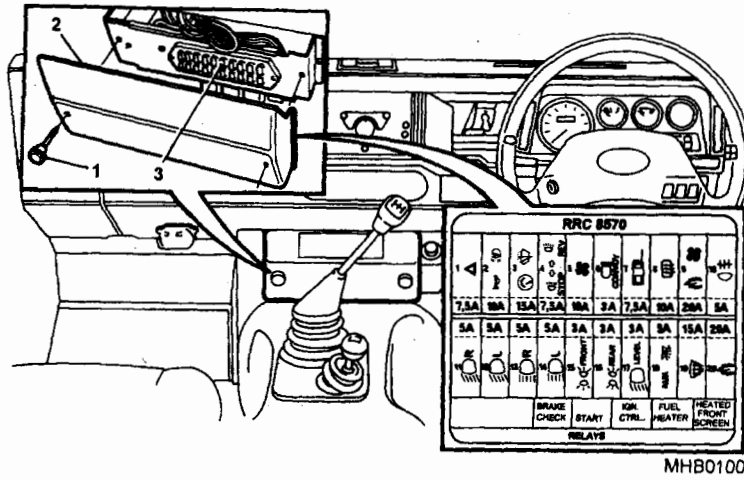

Fig 11 20 Way fuse box
- 14.2 Undo the fixings (Fig 11 (1)) and remove the fuse box cover (2).